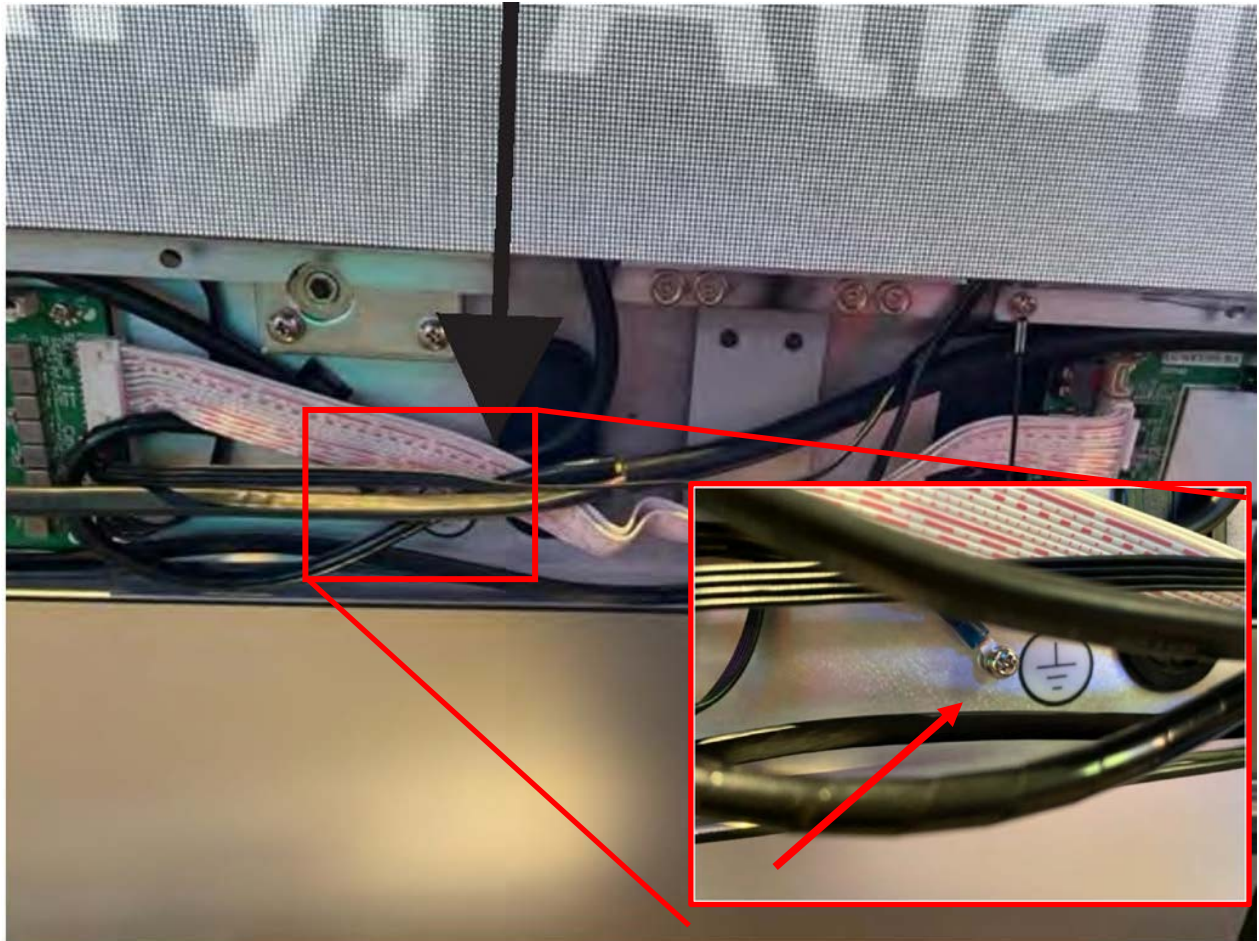

Figure 18
5. Add the grounding cable as shown in Figure 18.